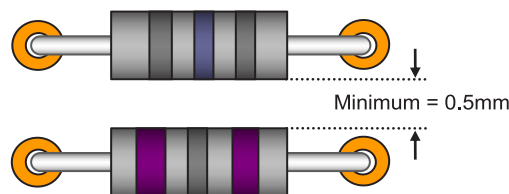

Figure 58: Distance between through-hole components.
- [106] The spacing between adjacent components is shown in figure 58.